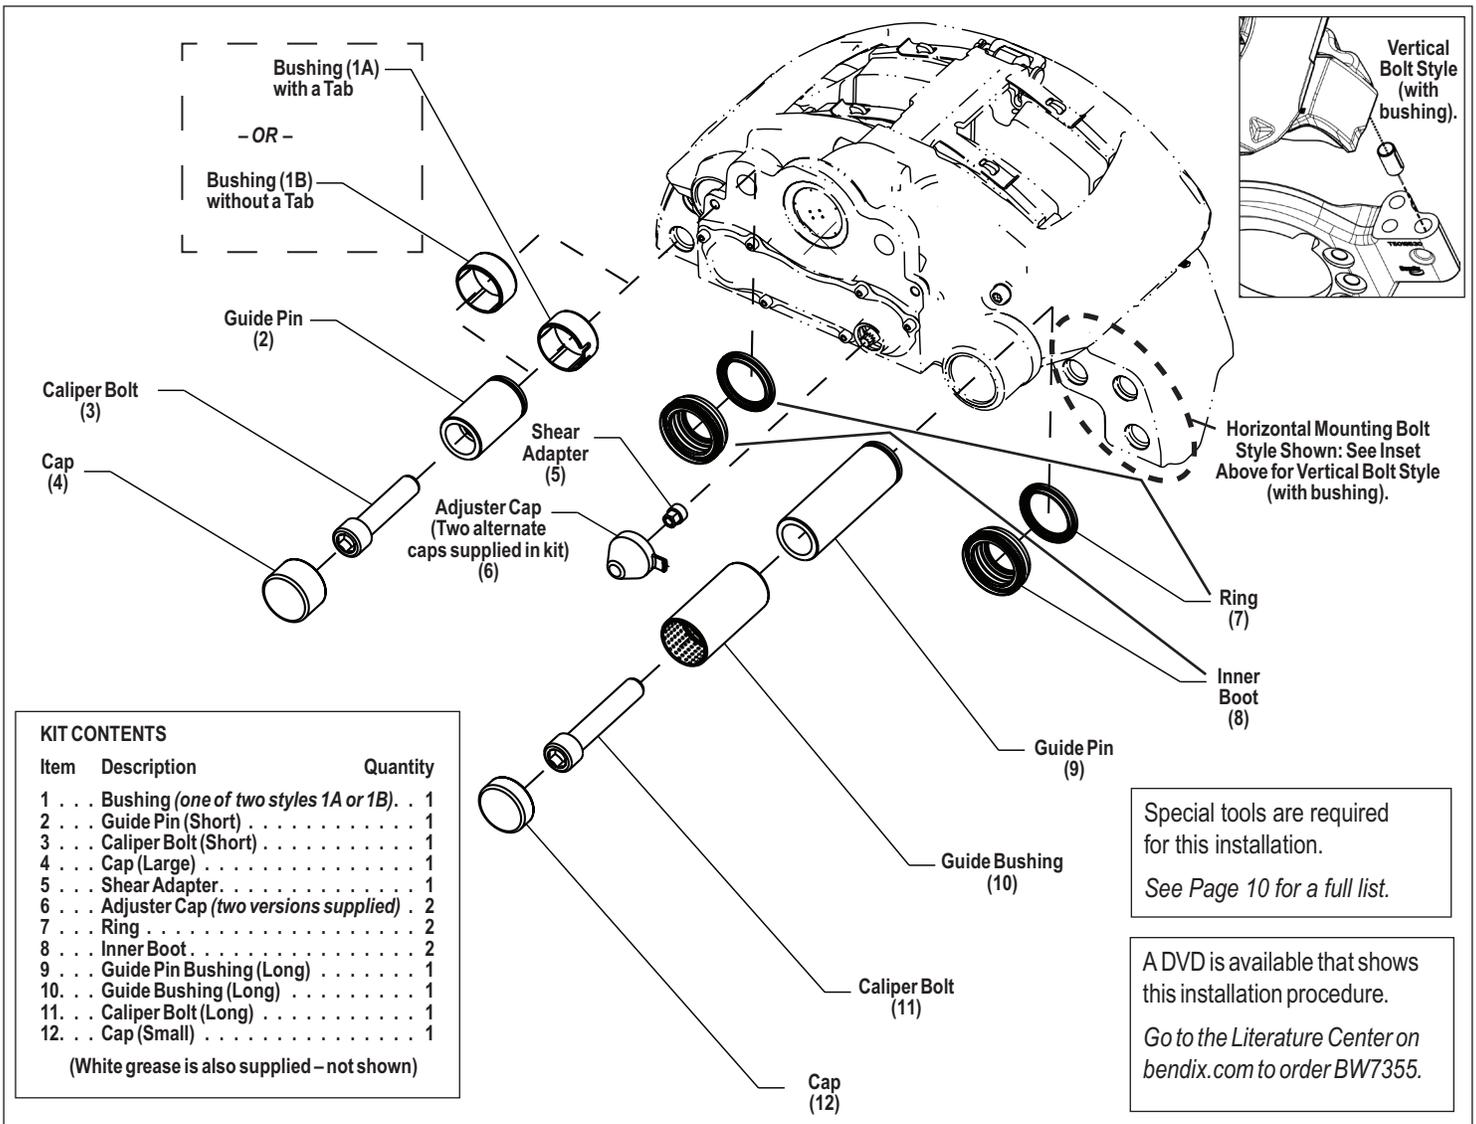

Figure 1 - Guide Pin Exploded View
Following all safety guidelines, clean the wheel area. There are two styles of mounting: vertical and horizontal. See Figure 1.
Refer to Figure 1. Place the brake on a workbench and, using a vice, secure it by the carrier. Using a small chisel or punch, tap a hole in the center of the guide pin cap (12), taking care